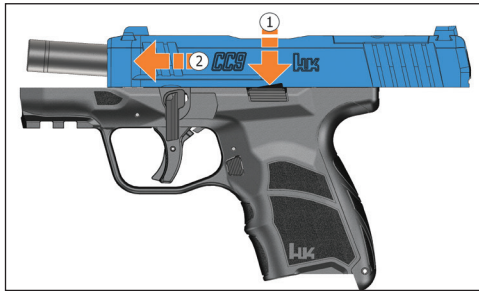

Figure 16 – Removing slide from frame assembly by pushing it forward
3. Depress the slide release (1) and push the slide forward (2), removing the slide from the top of the frame assembly (see Figure 16).